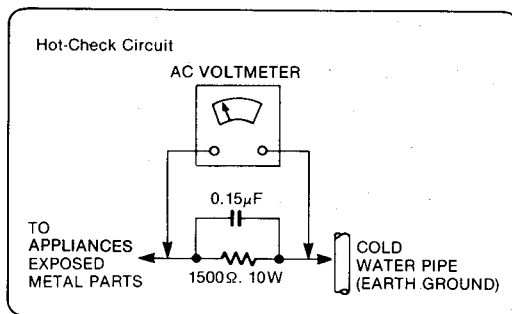

Figure 1
LEAKAGE CURRENT HOT CHECK (See figure 1.)
2. Connect a 1.5K Ω , 10 watts resistor, in parallel with a 0.15 μF capacitor, between each exposed metallic part on the set and a good earth ground such as a water pipe, as shown in figure 1.